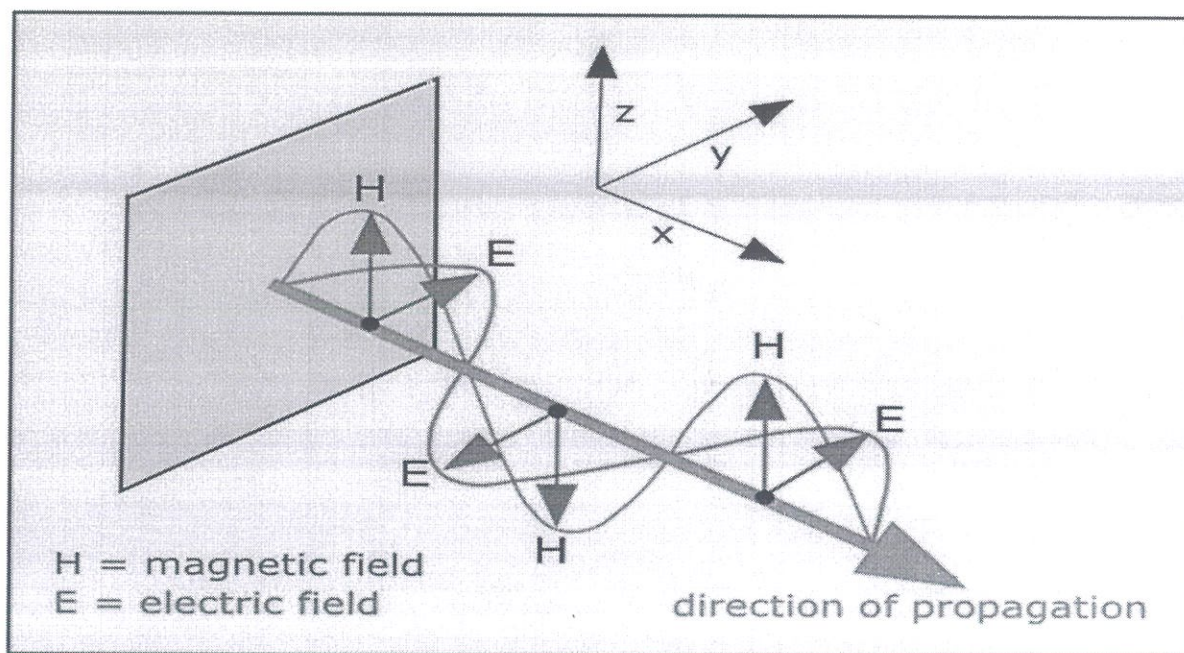

Fig. 1: Wave nature of light
According to wave theory, light travels in the form of **waves**. This wave motion consists of oscillating *electric (E) & magnetic (H) fields* (vectors) directed perpendicular to each & perpendicular to the direction of the propagation of wave (Fig. 1).